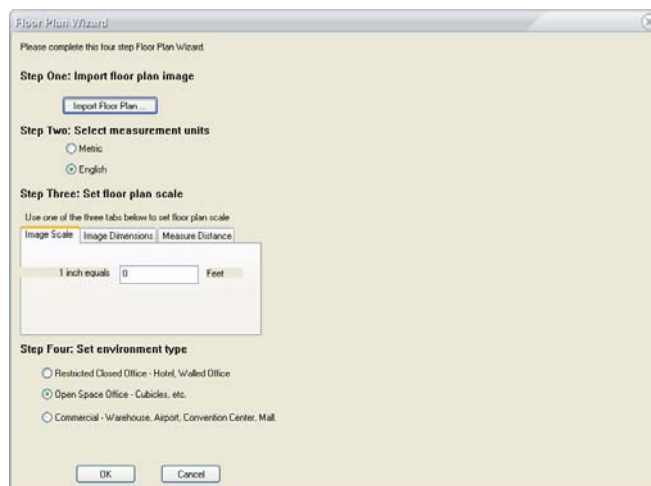

Figure 10-5: Floor Plan Wizard
- 1) Click Config>Config Floor.... The Floor Plan Wizard appears. See Figure 10-5.